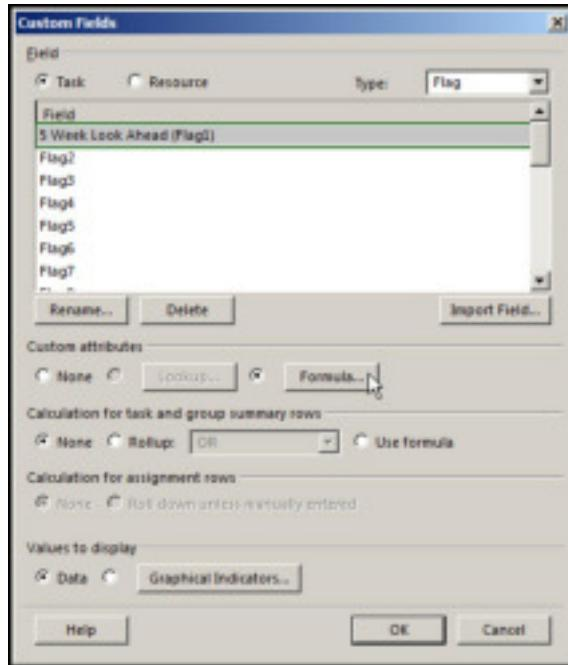

Figure 4
C. Toggle Formula in the custom attributes, Figure 4.